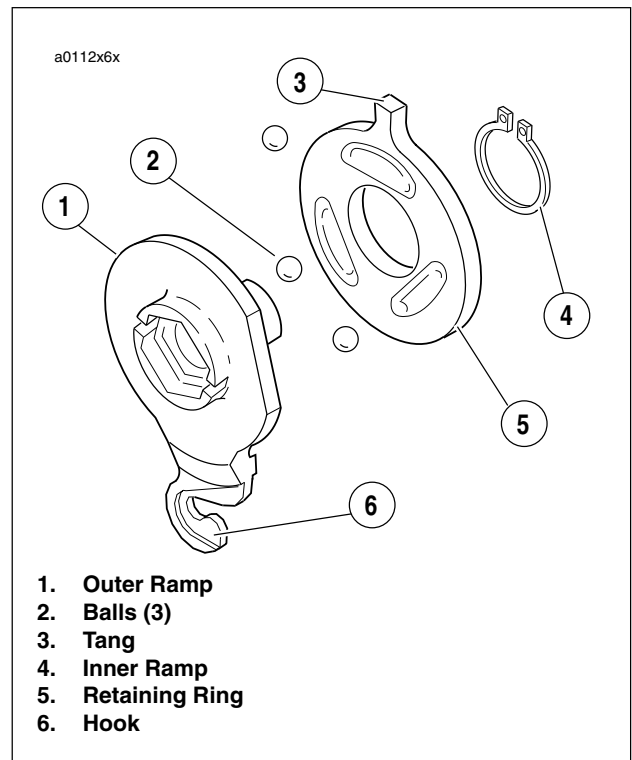

Figure 6-17. Inner & Outer Ramp
1. See Figure 6-17. Assemble inner and outer ramp.